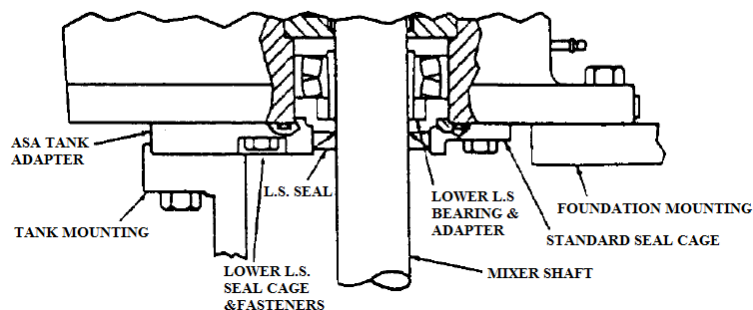

Figure 7.
14. Refer to figure 7. Check to be sure the lower bearing assembly is recessed into the housing. Pack the bearing cavity with NLGL #2 bearing grease.